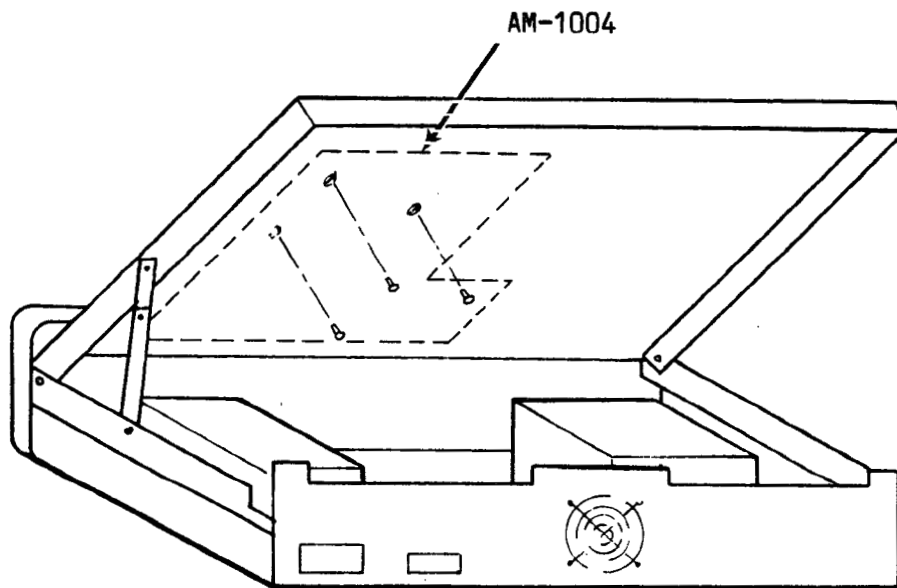

FIGURE 7. Fastening the AM-1004 to the CPU Board
1. The PCB designated AM-705 (on component side) must be removed. Refer to Figure 7 and remove the three (3) nylon screws that secure the board to the AM-1000 CPU board.
2. Gently lift the board off of the five (5) single-line connectors which are mounted to the CPU board.
8. The AM-1004 has three hex spacers fastened to the underside of it which position over three mounting holes in the CPU board (located near U18, U64 and U68). Insert the three #4x.250 nylon screws (included in the kit) from underneath the CPU board and screw them into the hex spacers on the AM-1004 board (Figure 7).